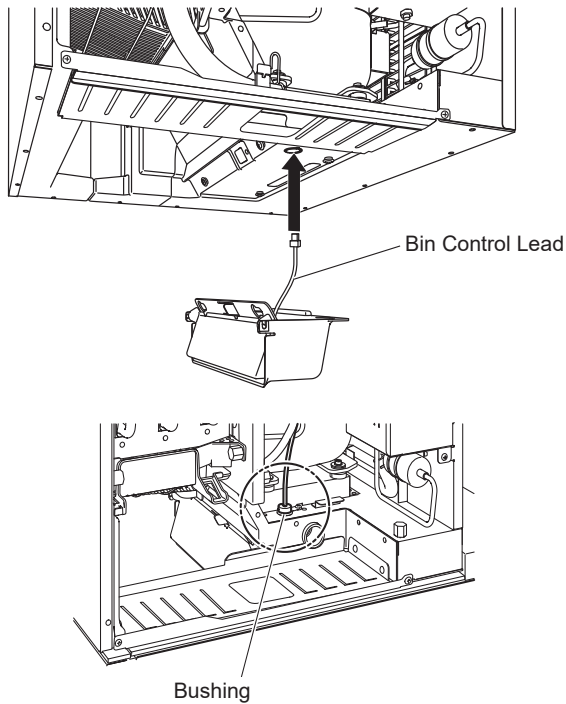

Fig. 5
6) Route the bin control lead through the hole in the base, then into the bushing provided. See Fig. 5.